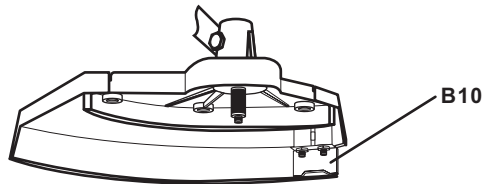

Fig. 19f
10). A line cutter (B10) is integrated with the trimming guard (B9) and this will cut the line to the necessary length. (See Fig. 19f)